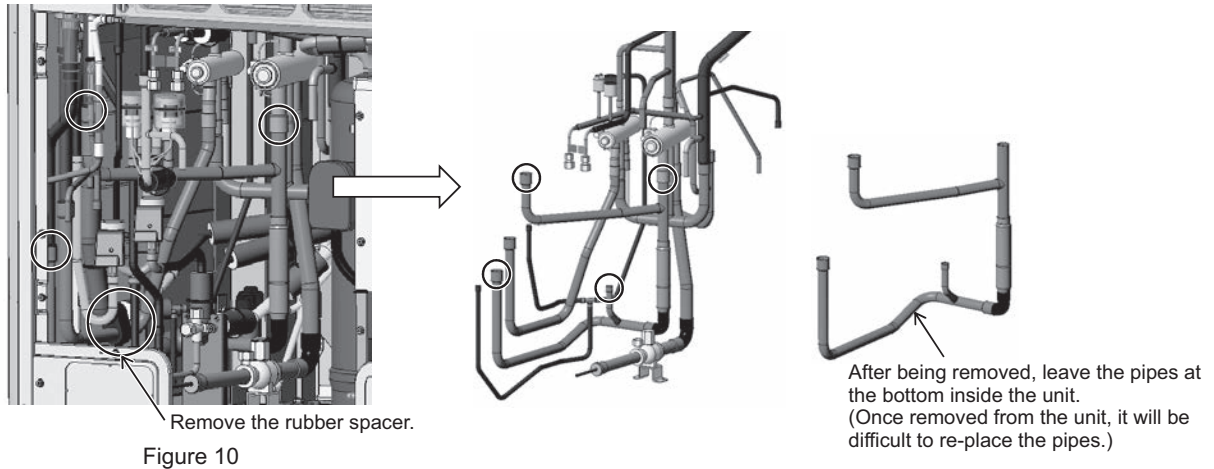

Figure 10
- (10A) Remove the pipe below four-way valve (21S4a) and on the front by removing the braze at the four areas shown in Figure 10.